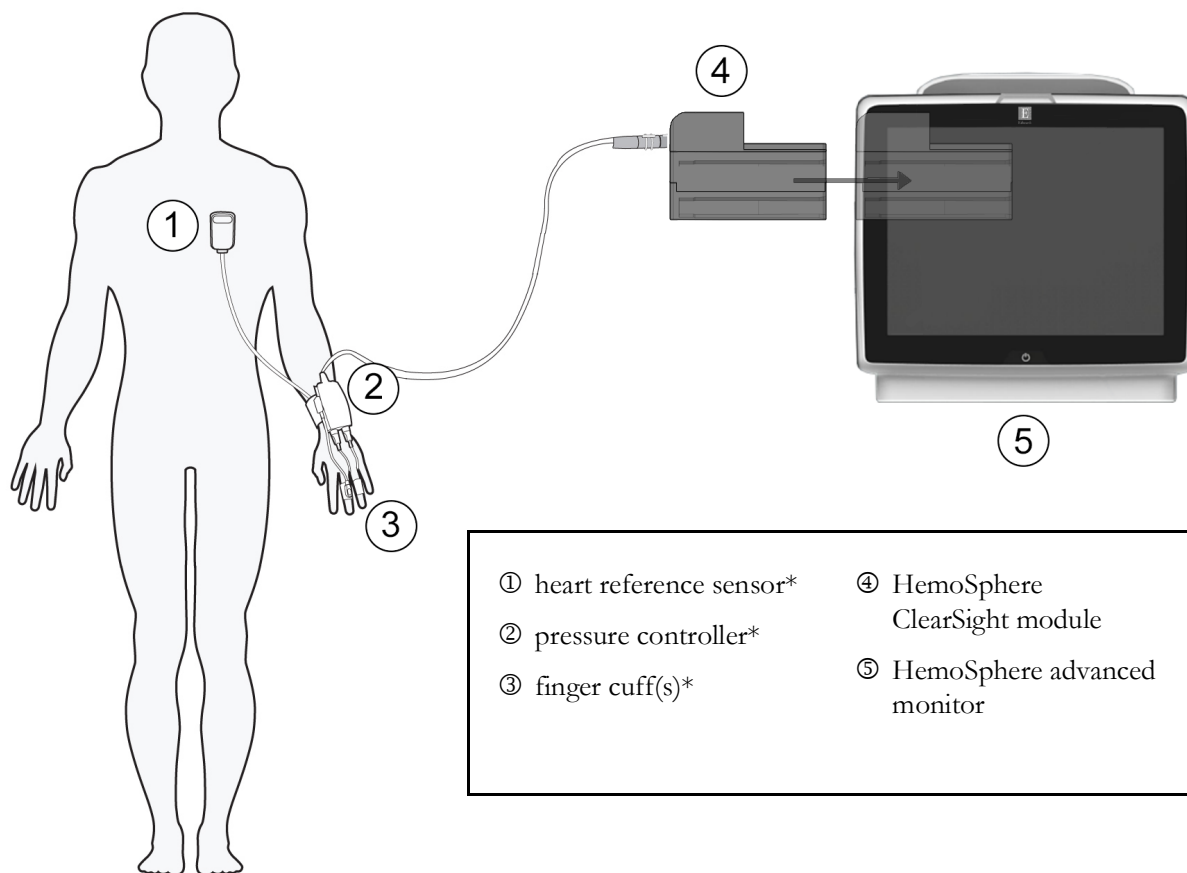

Figure 11-1 HemoSphere noninvasive system connection overview
The HemoSphere noninvasive system is composed of the HemoSphere advanced monitor with ClearSight module and connected pressure controller, heart reference sensor, and compatible Edwards finger cuff(s). See system connections in figure 11-1 on page 181. Accurate measurement of the patient's blood pressure and key hemodynamic parameters is based on the Volume Clamp method, Physiocal method and ClearSight algorithm.
The HemoSphere ClearSight module is compatible with all approved Edwards finger cuffs. See figure 11-1 for an overview of the HemoSphere noninvasive system connections.
NOTE Components indicated by * in figure 11-1 legend are APPLIED PARTS as defined in IEC 60601-1 that in normal use necessarily come into physical contact with the patient for the HemoSphere noninvasive system to perform its function.
- 3 Attach the pressure controller cable to the HemoSphere ClearSight module. (figure 11-1)